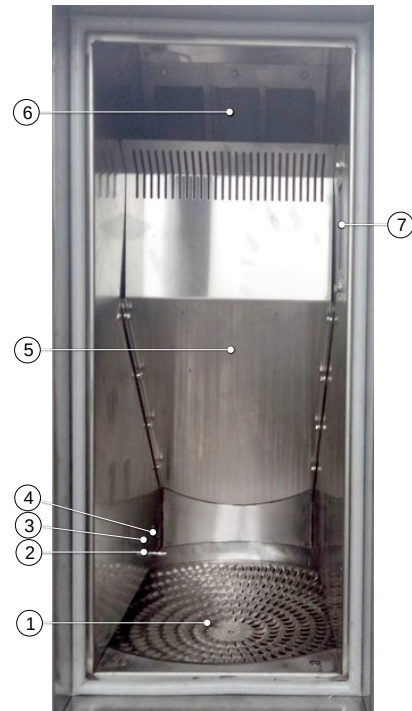

Figure 2: Chamber
Opened chamber is shown on Fig.2.
The optical sensor (pos.3 Fig.2) protects the machine from clogging. The new portion of corn won't be pushed in the chamber until the previous batch is processed and left the chamber. Thus the possibility of clogged chamber is minimal. However, the chamber may be clogged due to various reasons, for example:
Machine uses chamber optical sensor (pos.3 Fig.2) to control the process. It won't start the new batch of corn until the previous batch has not processed yet. For this reason, Feeding time does not directly affect the overall production of the machine.